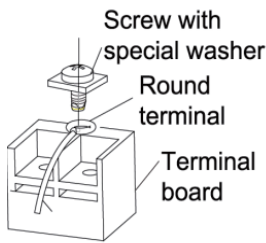

Fig. 27
- 4). Position the round terminal wire, and replace and tighten the terminal screw with a screwdriver. (Fig. 27)